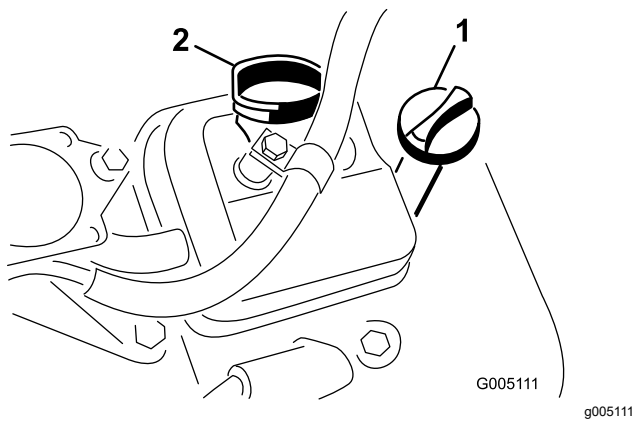

Figure 33
3. Insert the dipstick into the dipstick tube and thread it into the tube (Figure 33).